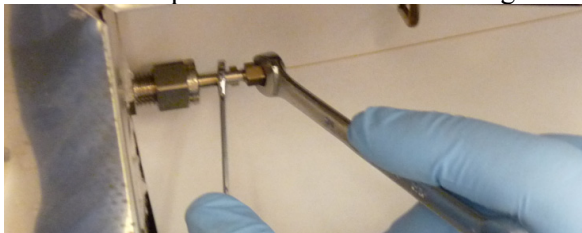

Figure 21 Tightening the column nut.
- Using the 5 mm and 1/4 inch crescent wrenches, tighten the column nut until the ferrule is crimped onto the column. See Figure 21.